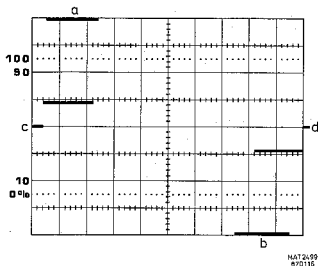

Figure 9.2 Service menu DISPLAY 5.
- Adjust the Yx1 gain R2513 on unit A1 so that the vertical distance between the two horizontal lines is 8 div (max. deviation + or - 0,6 div) such as given in figure 9.2 (lines a and b).
- Adjust the horizontal gain R2566 on unit A1 so that the distance between the starting point of the small horizontal lines c and d in figure 9.2 is 10 div (+ or - 0,1 div). The starting points of the lines c and d must be such as given in figure 9.2.